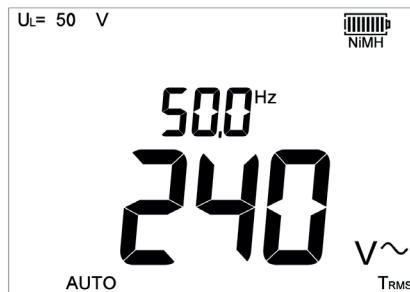

Figure 2, Instrument displaying that the circuit is live.
5. Ensure the MFT shows the circuit is live as in Figure 2 below: